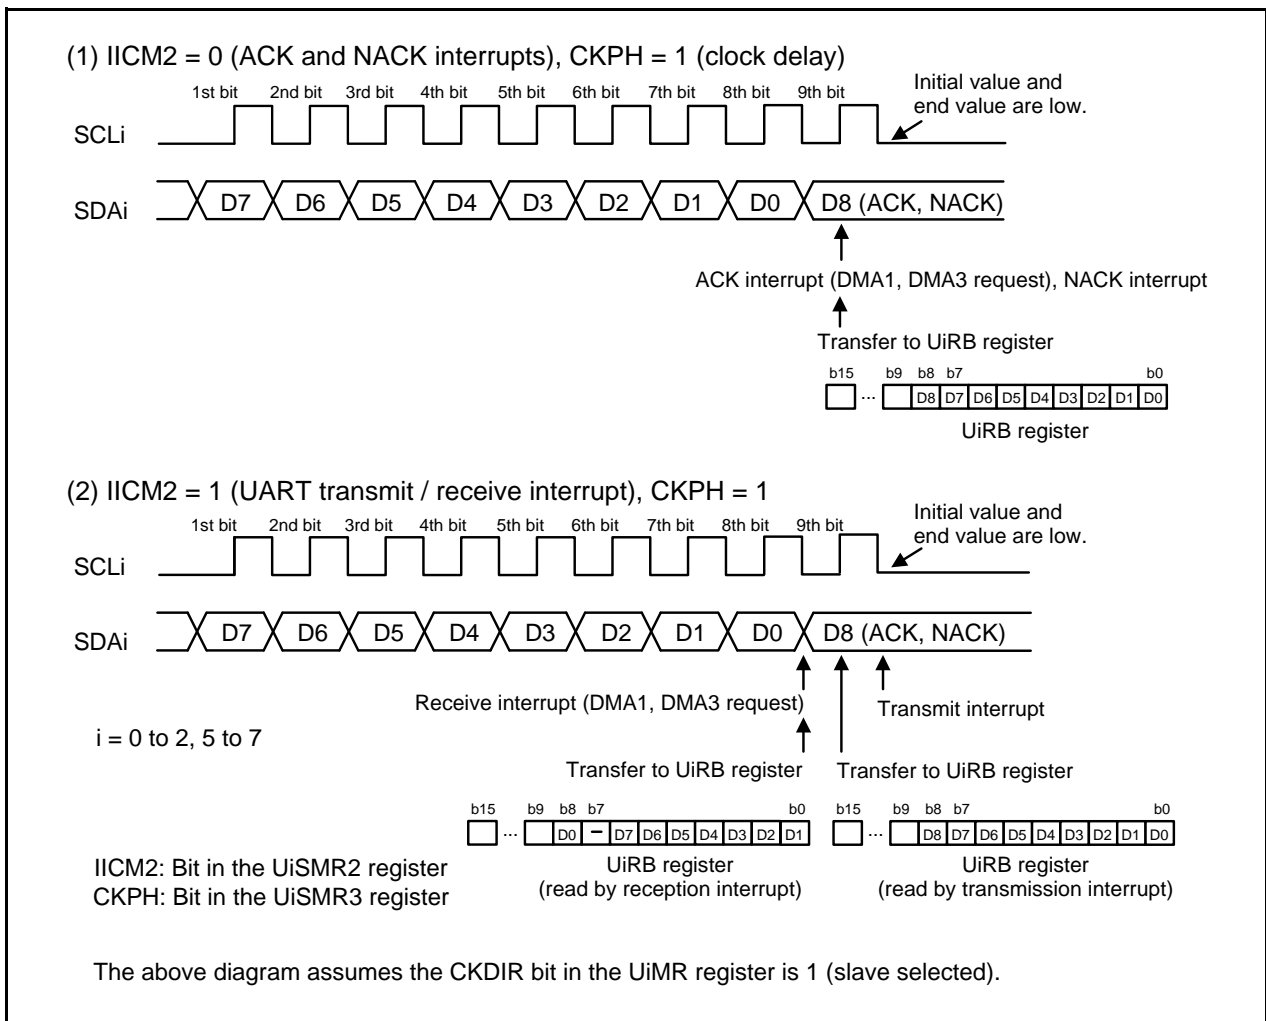

Figure 23.20 Transfer to UiRB Register and Interrupt Timing
In I²C mode, functions and timings vary depending on the IICM2 bit setting in the UiSMR2 register. Figure 23.20 shows Transfer to UiRB Register and Interrupt Timing. See Figure 23.20 for the timing of transferring data to the UiRB register, the bit position of the data stored in the UiRB register, types of interrupts, interrupt requests, and DMA request generation timing.
- See Figure 23.20 "Transfer to UiRB Register and Interrupt Timing".
Data transmission/reception in I²C mode uses the transmit/receive clock as shown in Figure 23.20 “Transfer to UiRB Register and Interrupt Timing”. The clock speed increase makes it difficult to secure the required time for ACK generation and data transmit procedure. The I²C mode supports a function of wait-state insertion to secure this required time and a function of clock synchronization with a wait-state inserted by other devices.
Read the received data from the UiRB register. When the clock delay function is used, data transfer to the UiRB register occurs twice and each UiRB register value is different. Refer to Figure 23.20 “Transfer to UiRB Register and Interrupt Timing” for details.